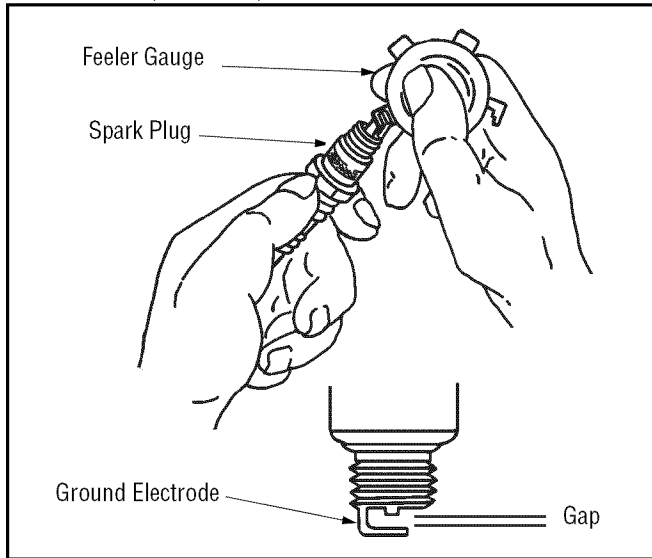

Figure 14
- Check the gap using a feeler gauge and adjust, if necessary, by carefully bending the ground electrode. See Figure 14. Set the spark plug gap to .76 mm (0.030 in.).